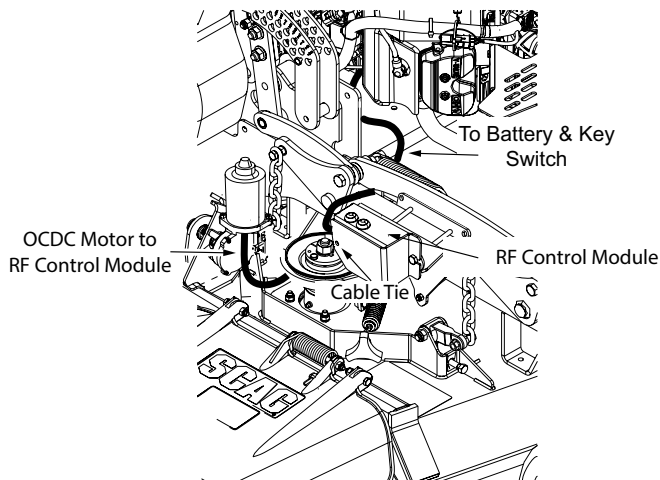

Figure 3-45. E-OCDC Wire Harness Installation
4. Using a cable tie, retain the wires from the RF control module to the hole in the RF control module guard. See Figure 3-45.
5. Locate the "A" terminal on the key switch and install the green wire from the E-OCDC harness to the key switch. See Figure 3-45.
6. Plug the EOCD main wire harness into the RF control module. See Figure 3-45. DO NOT plug the E-OCDC motor harness into the RF control module at this time, this may cause movement of the linkages.